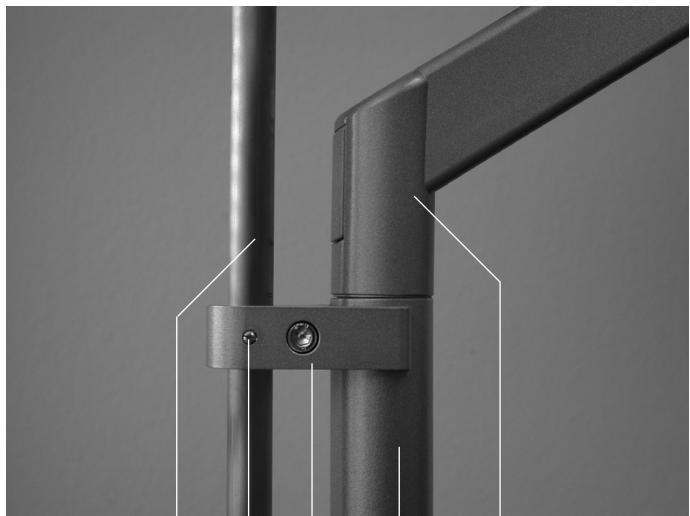

Fig. 61
Mounting steps (see Figs. 61 to 62)
- J02 Fasten the clamp [52] onto column [SR] of the luminaire (see Fig. 61).
Note: The upper clamp [52] should be mounted directly below the arm [TA] onto column [SR] (see Fig. 61).